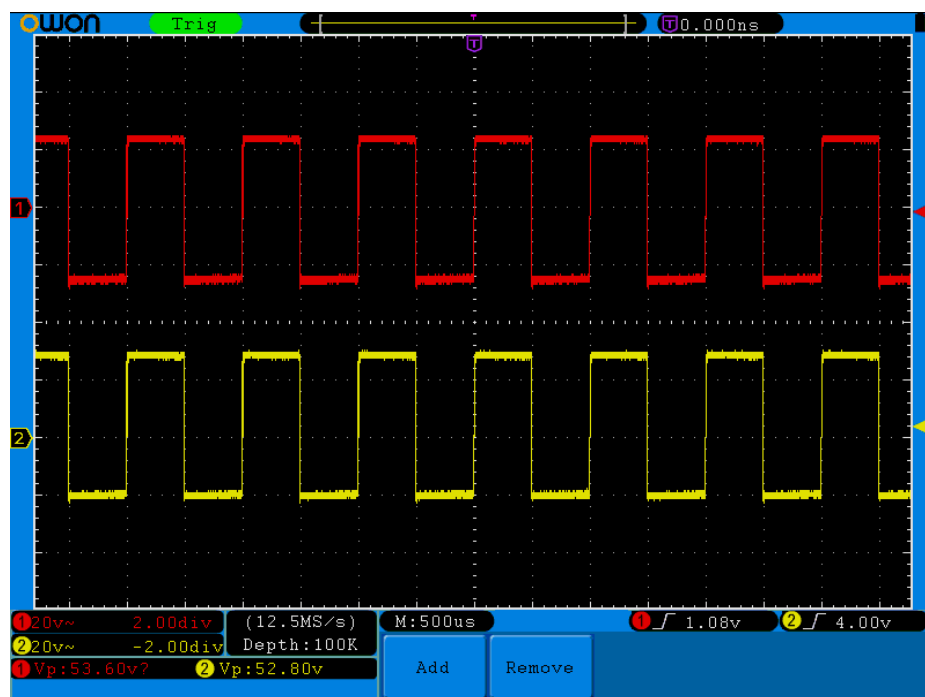

Fig.6-2 Waveform of Gain Measurement
- (1) Push down the **Autoset** button and the oscilloscope will automatically adjust the waveforms of the two channels into the proper display state.
- (2) Push down the **Measure** button to show the Measure menu.
- (3) Press the **H1** button.
- (4) Press the **F2** button and choose **CH1**.
- (5) Press the **F1** button and turn the **M** knob to choose **PK-PK**..
- (6) Press the **F2** button and choose **CH2**.
- (7) Press the **F1** button again and turn the **M** knob to choose **PK-PK**..
- (8) Read the peak-to-peak voltages of Channel 1 and Channel 2 from the bottom left of the screen (See Fig.6-2).
- (9) Calculate the amplifier gain with the following formulas.